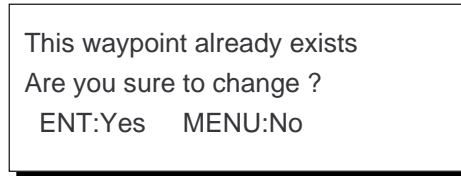

Figure 5-7
- ① Press [WPT RTE] and [5] to display the route list.
- ② Press ▲ or ▼ to select route number entered.
- ③ Press ►.
- ④ Enter waypoint number, in three digits.
- ⑤ Press ▼. If the waypoint number already exists the message shown in Figure 5-7 appears.